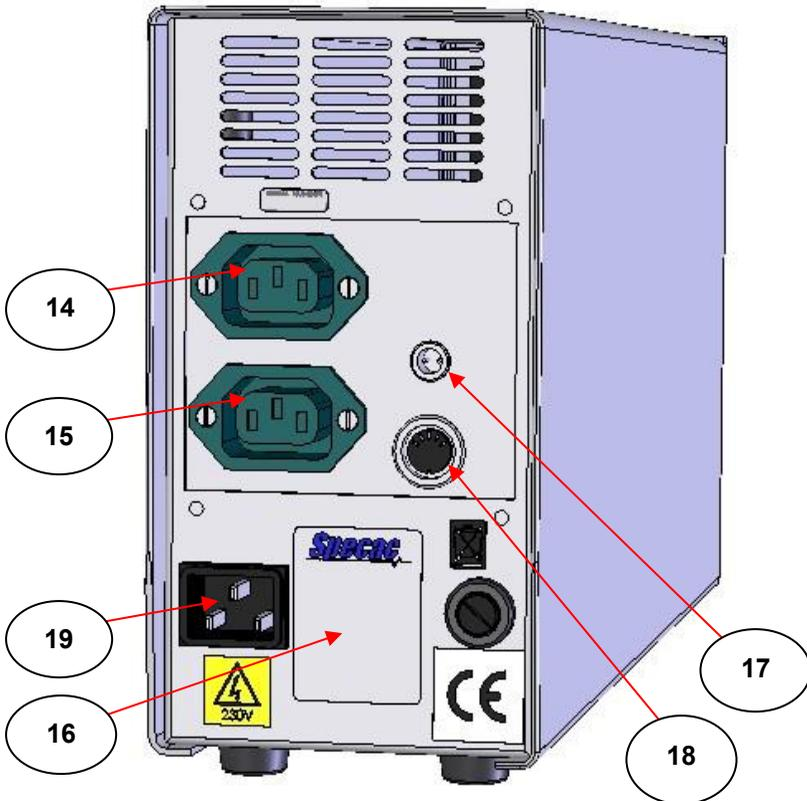

Fig 10. Rear Panel of Atlas™ Heated Platens Temperature Controller for Electrical Connections
The cut-out switch (5) flow tube part has push on hose type fittings at both ends for in-line connection with the black silicone flow tubing. There is a particular direction of water flow indicated on the tube that must be observed for correct connection and operation. When the safety cut out switch (5) has been included within the cooling water flow system, the electrical cable attached to the cut-out switch is connected to the rear panel of the Atlas™ Series Heated Platens temperature controller via its appropriate plug and connection socket (18). (See Fig 10.). Ensure that the plug and its connection socket (18) are correctly aligned when pushing to fit.
Both the top (1) and lower (2) heated platen assemblies are independently connected to their sockets on the rear panel of the dedicated temperature controller via their own power cables. (See Fig 10.) Socket (14) is for the top heated platen (1) assembly and socket (15) is for the lower heated platen (2) assembly.
Note: *For operation of the Atlas™ Series Heated Platens temperature controller it is essential that a thermocouple is available. The thermocouple used for control of the heated platen assemblies (1) and (2) is permanently fixed to the lower heated platen assembly (2) and connects to the rear of the temperature controller by a 2 pin fixing plug into the socket (17)(See Fig 10.)*
The top (1) and lower (2) heated platen assembly power cable leads are connected to the rear of the temperature controller into the sockets (14) and (15) respectively. (See **Fig 10.**)
The thermocouple lead (fitted with a 2-pin plug) from the lower heated platen assembly (2) is connected to the rear of the temperature controller into socket (17). (See Fig 10.) Take care that the 'C' shaped inner sleeves of plug and socket are aligned before pressing the plug in. (Failure to do so can damage the plug and socket).